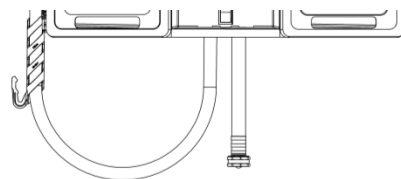

Figure 5
10. Connect the supplied water hose to your water source and activate the dispenser by selecting a position on the dial and using either the bucket or bottle fill activation point (*Figure 5*)